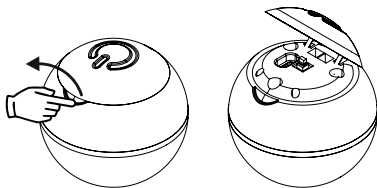

Figure 4. Opening the cap to access Charging connector (b)
- Low battery level is indicated by blinking BLUE light in User Interface Window (4) before start of therapy. This means you have enough charge for one more therapy session.
- Cap (1) must be opened in order to access the Charging connector (6). This shall be done by putting finger in the Opening cutout (3) and softly lifting Button cap (1) until it opens (figure 4).